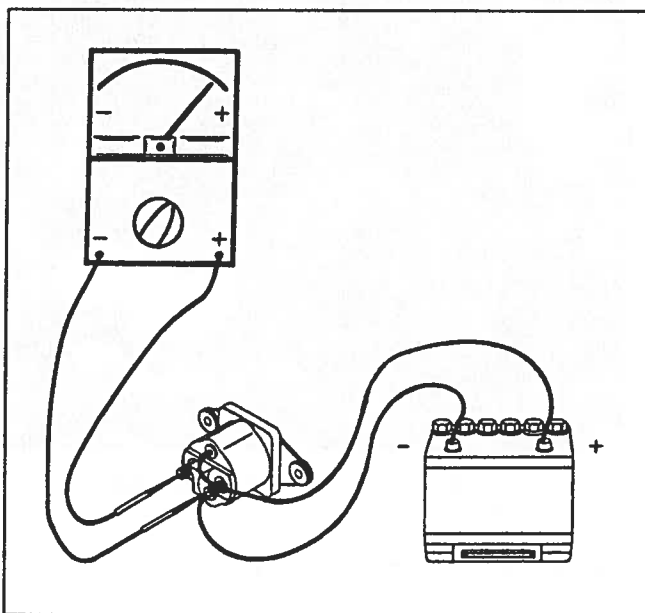

Figure 6-17. Testing Standard Solenoid, Four-Connection Type
1. Using continuity meter, connect test leads as shown in Figure 6-17, and connect 12-volt battery with jumper leads as shown.